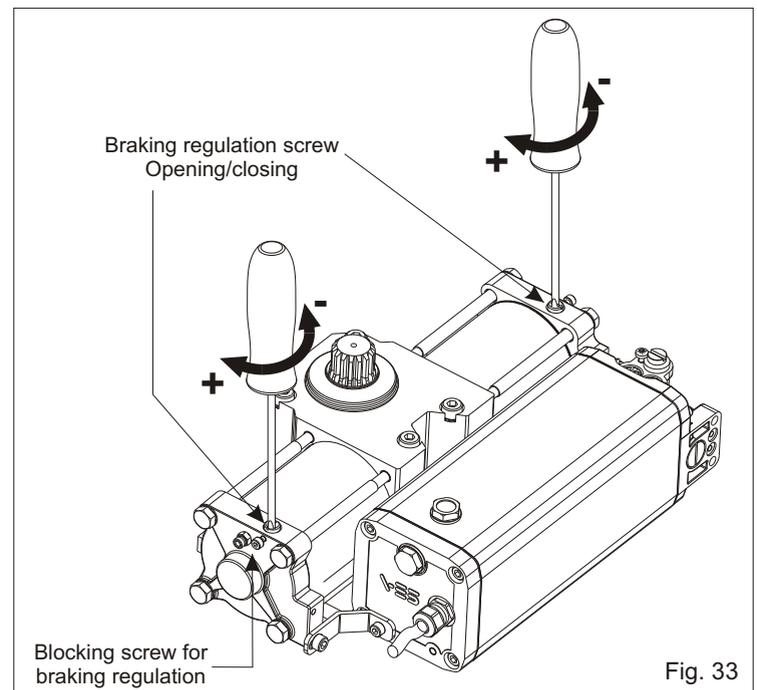

Fig. 33
10.1. It is possible to regulate the leaf slowdown in opening and in closing, through the braking adjusting screw (Fig. 33).